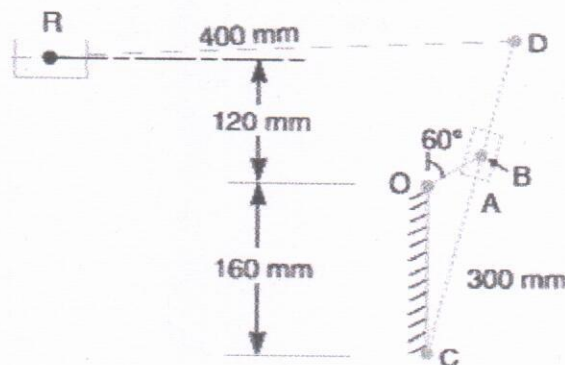

Fig.3
- c. In a quick return mechanism, as shown in Fig.3, the driving crank  $OA$  is 60 mm long and rotates at a uniform speed of 200 r.p.m. in a clockwise direction. For the position shown, find